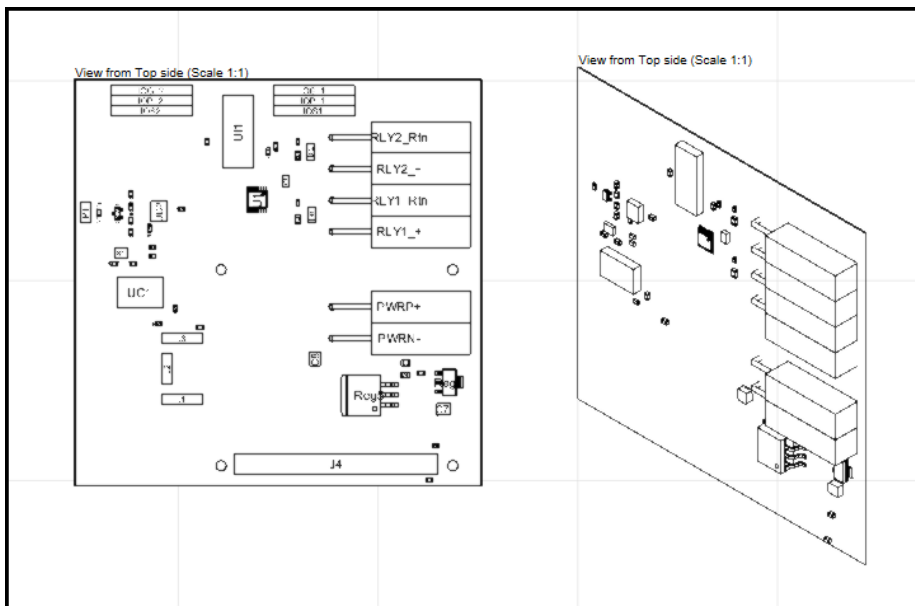

Figure 10. Added Isometric View to sheet 4
36. Place the *Board Isometric View* to the right of the *Top Side Board Assembly* view as shown in Figure 10.